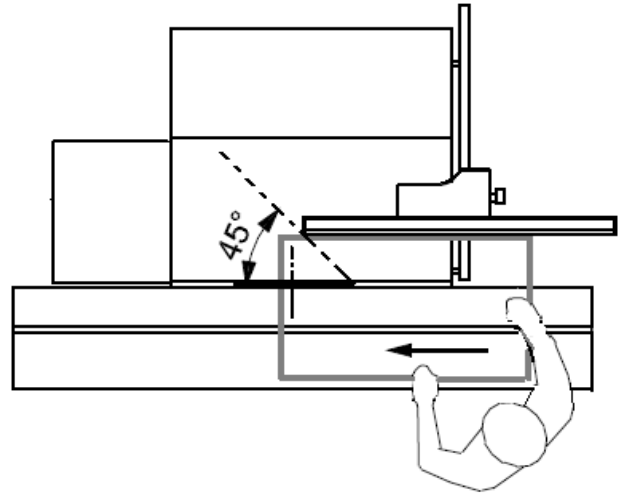

Fig 23.2
-When ripping, to avoid the wood getting stuck between the fence and the saw blade or the riving knife (resulting in a highly dangerous kickback) it is necessary to position the rip fence so that its end corresponds close to an imaginary line at 45° on the table from the front end of the saw blade (see Fig 23.2).